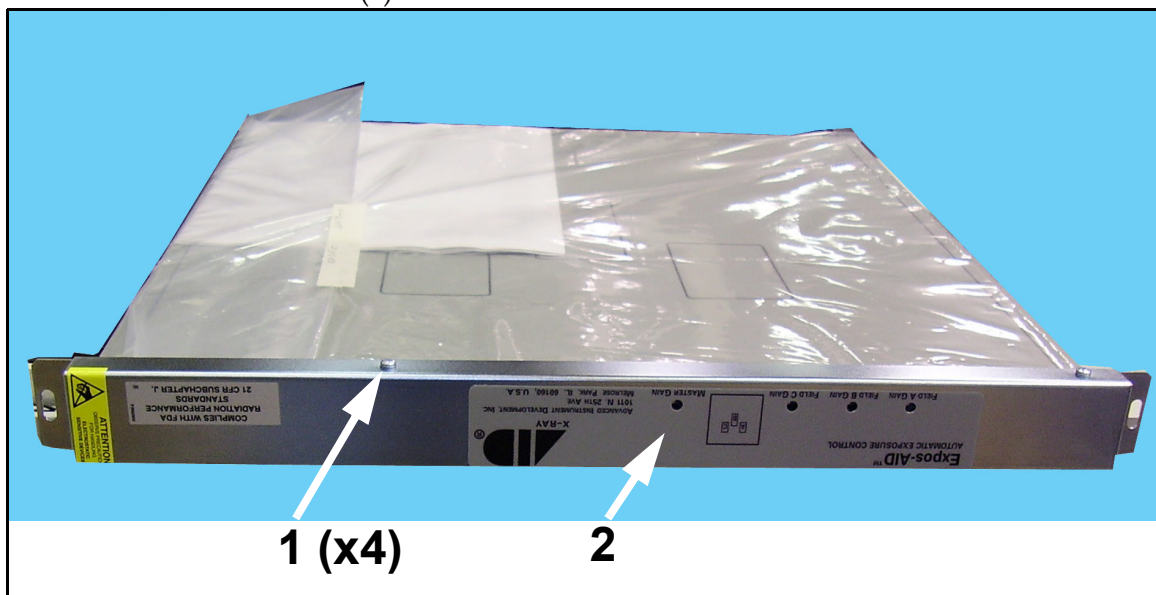

Figure 2-16. Ion Chamber Cover
32 Unscrew the four cover screws (1 in Figure 2-16) and remove the cover (2).